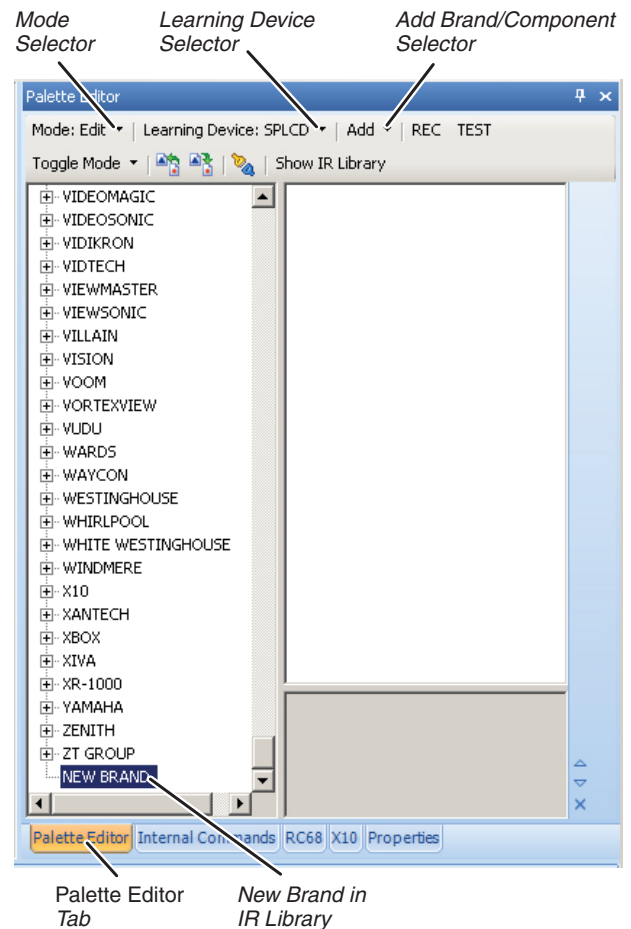

Figure 55: Palette Editor window in learning mode
1. Select the *Palette Editor* tab to display the Palette Editor window (see *Figure 55*).